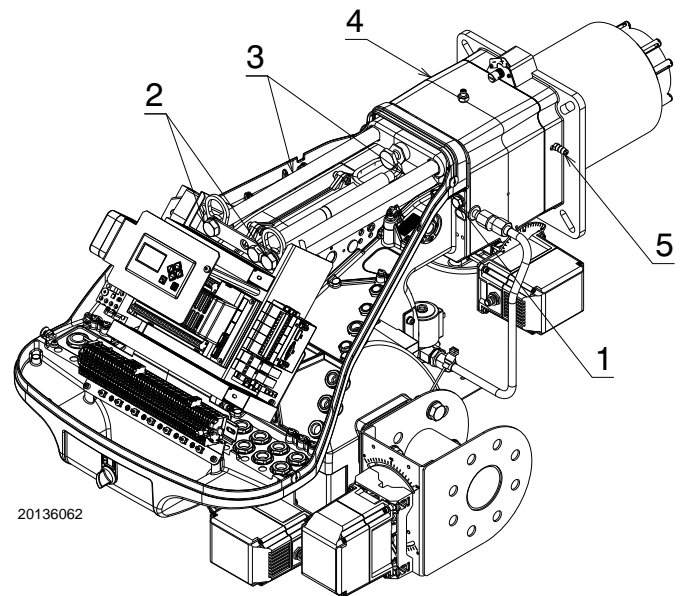

Fig. 17
- insert the electrode cable, then slide the burner as far as the pipe coupling - burner in the position shown in Fig. 17;